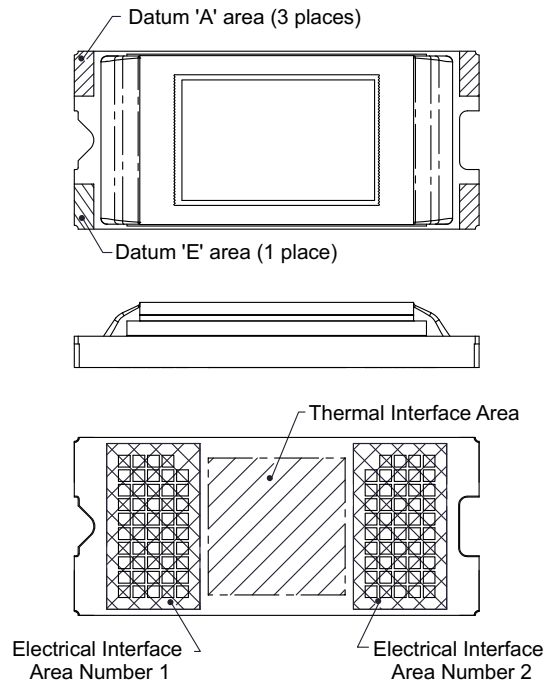

Figure 4. System Interface Loads for FQD
(1) See **and Mechanical, Packaging, and Orderable Information for diagrams.**
(2) See **Mounting Concepts DLP4500FQE.**
(3) See **and Figure 4 for diagrams.**
(4) See **Mounting Concepts DLP4500FQD.**